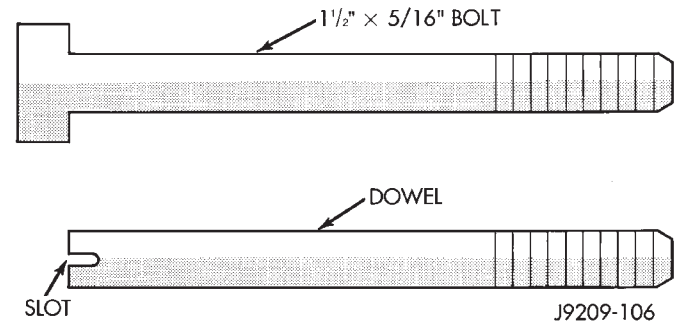

Fig. 38 Fabrication of Alignment Dowels
- (1) Fabricate 4 alignment dowels from 1 1/2 x 5/16 inch bolts. Cut the head off the bolts and cut a slot into the top of the dowel. This will allow easier installation and removal with a screwdriver (Fig. 38).